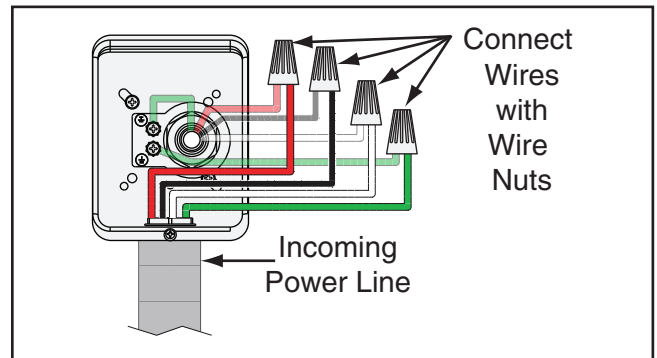

Figure 34. Model G0652 incoming power wires connected at junction box.
3. Connect the incoming power wires and ground wire to the wires in the junction box using wire nuts, (see **Figure 34**), then wrap each of the wire nuts and their respective wires with electrical tape to secure them.